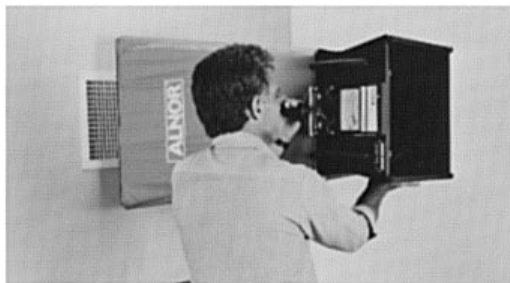

Figure 10. Holding Balometer for Measurements
See Figure 10 for ways that the permanent and detachable handles help in making measurements.
4. Bring the Balometer into contact with the perimeter of the diffuser or grill to be measured. See Figure 10 for guidance in how to hold the Balometer when taking measurements. To assure maximum accuracy, the foam gasket along the top of the frame must be firmly in contact with the surface all around the opening. Take care to ensure that your body or other material is not accidentally affecting the reading by blocking or diverting the air flow at either the air entry or exit sides.